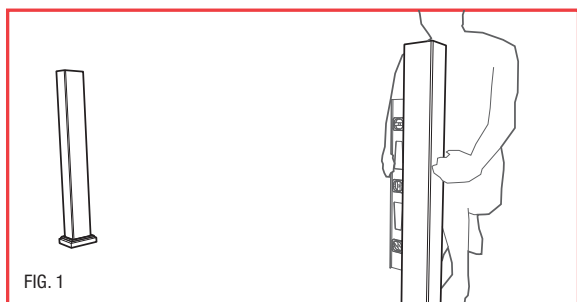

FIG. 1
1. Install and prepare posts or other mounting surfaces for TAM-RAIL Railing installation. Ensure mounting surfaces are level and plumb. (Fig. 1) TAMKO recommends using TAM-RAIL Post Mount Systems or wood posts covered with our matching TAM-RAIL Post Sleeve.
1. Install and prepare posts for TAM-RAIL Railing installation. Ensure mounting surfaces are level and plumb. (Fig. 1) TAMKO recommends using TAM-RAIL post mount systems or wood posts covered with our matching TAM-RAIL post sleeve.